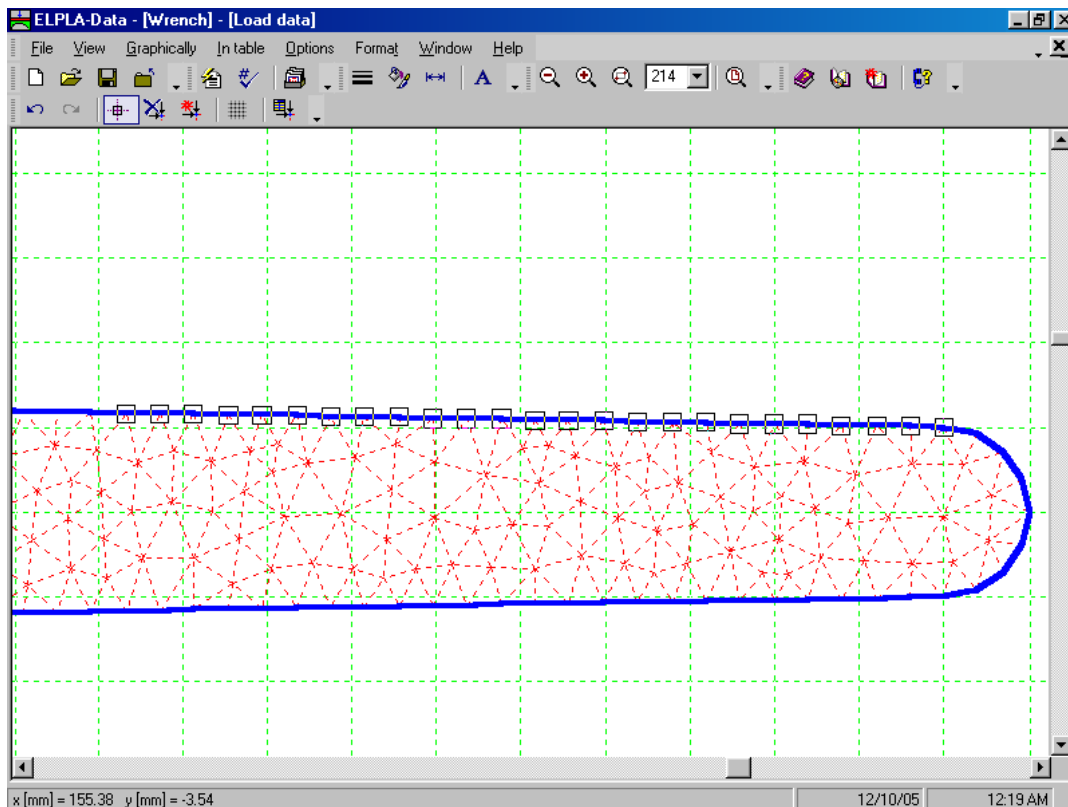
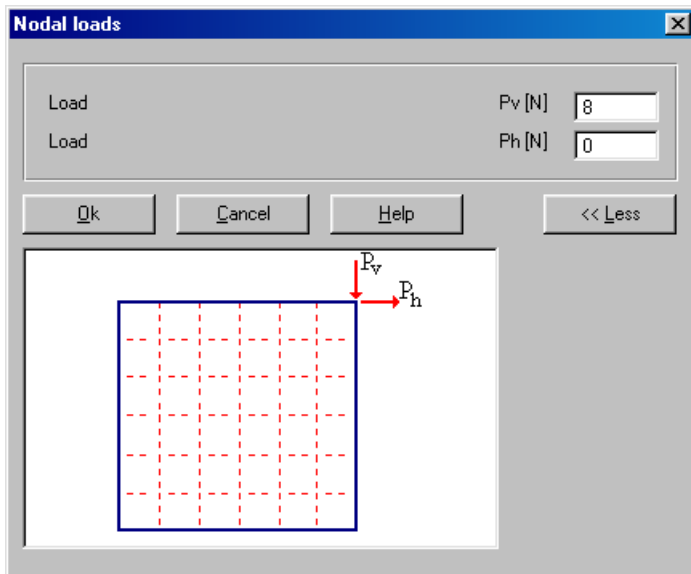

Figure 5-27 Select load nodes
Figure 5-28 "Nodal loads" dialog box
- Choose the "Zoom window" command from the "Window" menu to zoom the wrench end as shown in Figure 5-27
- Click the left mouse button on nodes that would have loads. Since the total force is 200 [N] over a length of 100 [mm] and the nodes are generated at about [4] mm spacing, choose 25 nodes from the wrench end as shown in Figure 5-27
- After selecting nodes of loads, choose "Add nodal loads" command from "Graphically" menu in Figure 5-27. "Nodal loads" dialog box in Figure 5-28 appears